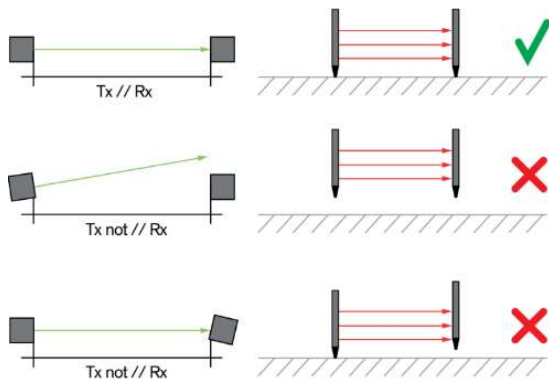

Figure 6.1: Proper Mounting
In order to fulfill EN 12978:2009 the lower end of the edges must be at the level of the door closed position (see Figure 6.1).
5. Mount the emitter across from the receiver. If the receiver is mounted in the guiding track, the emitter should be mounted in the guiding track opposite the receiver. Make sure the optical elements are facing each other (see Figure 6.1).